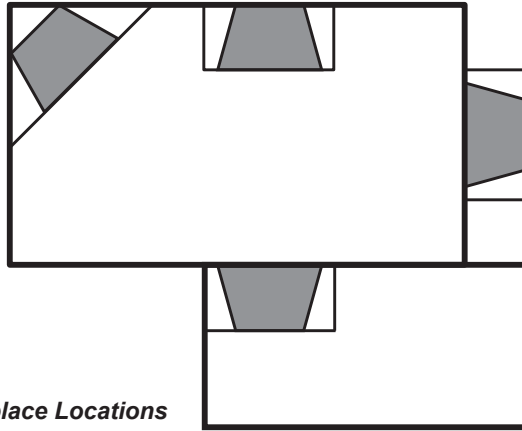

**Figure 4 -
- Minimize modifications to existing construction. *Refer to Figure 4* below for location suggestions.